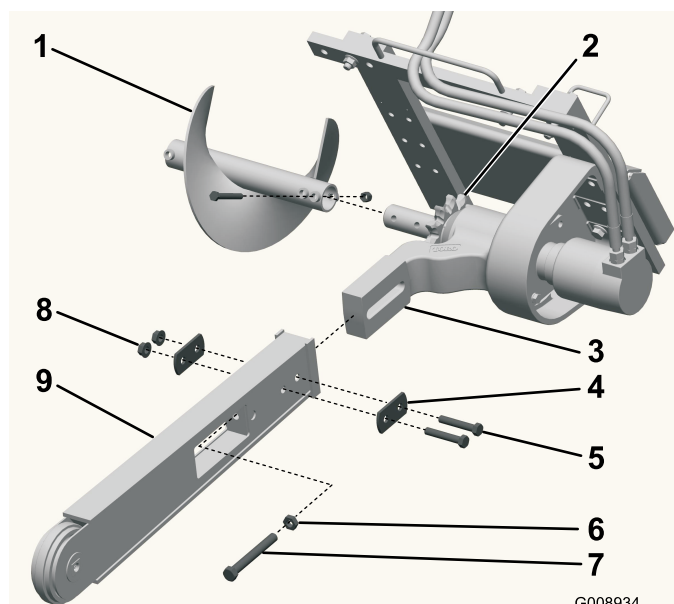

Figure 3
3. Remove the bolt and nut securing the spoils auger and remove the auger (Figure 3). Save the bolt and nut for future use.
4. Remove the 2 bolts, nuts, and double washers from the sides of the boom (Figure 3).
5. Loosen the adjusting bolt and jam nut (Figure 3).